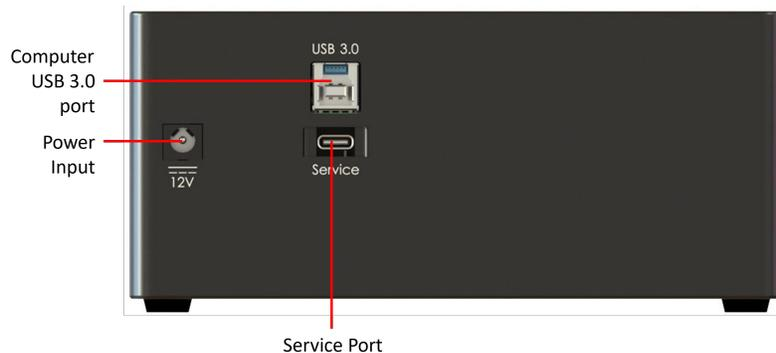

Figure 2.7: *FluoPulse™ Console back*
8. **USB 3.0 Port:** The console connects to the computer by a **USB 3** cable. At the back of the console, there are two USB connectors as seen in Figure 2.7. The upper, type B **USB 3.0** connector must be used.
9. **Service USB Port:** This USB-C port will only be used when the firmware is reprogrammed (Fig. 2.7). For proper reprogramming, the **Service Switch** should also be set to “P” when using this port. During regular usage no cable should be connected to the USB-C port.
- The *Console* and the *Cube* share a single 12V, 3A **Power Supply** using the **Y-branching cable**. Before connecting, confirm that the power switches on the *Cube* and *Console* are in the OFF position, then plug each connector of the branching Y-cable to the **12V power input** at the back of each device (*Cube*: Fig. 2.4, *Console*: Fig. 2.7).